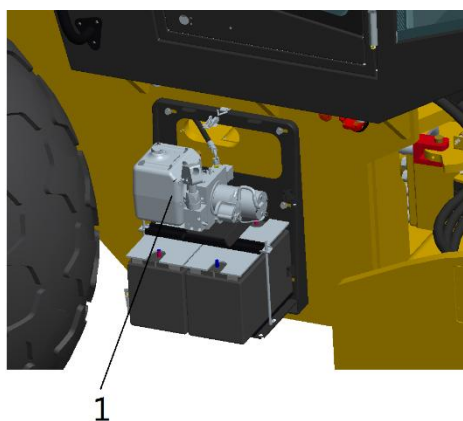

Figure 3-30
3.4.6.3 Change hydraulic oil in the hydraulic pump station (Figure 3-30)